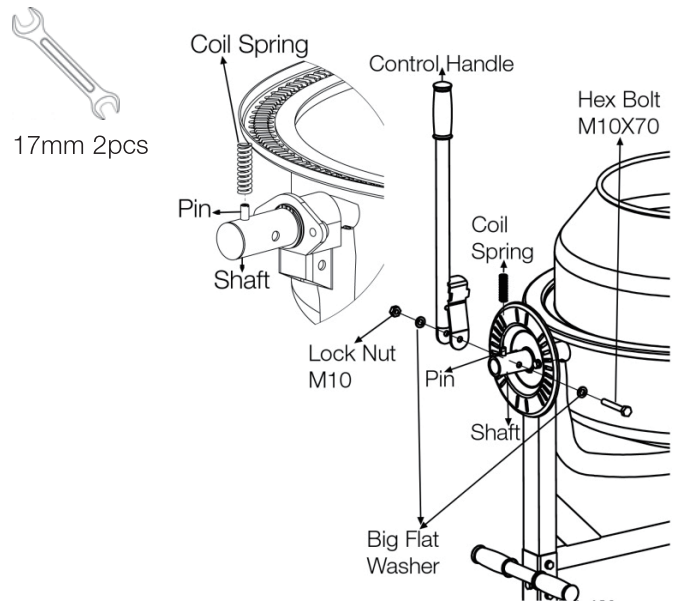

Figure 9
- Insert Coil Spring onto the pin on the shaft, then put the Control Handle onto the Coil Spring, and mount the Control Handle on Arm using one M10X70 Hex Bolt, two Big Flat Washers and one M10 Lock Nut. Figure 9